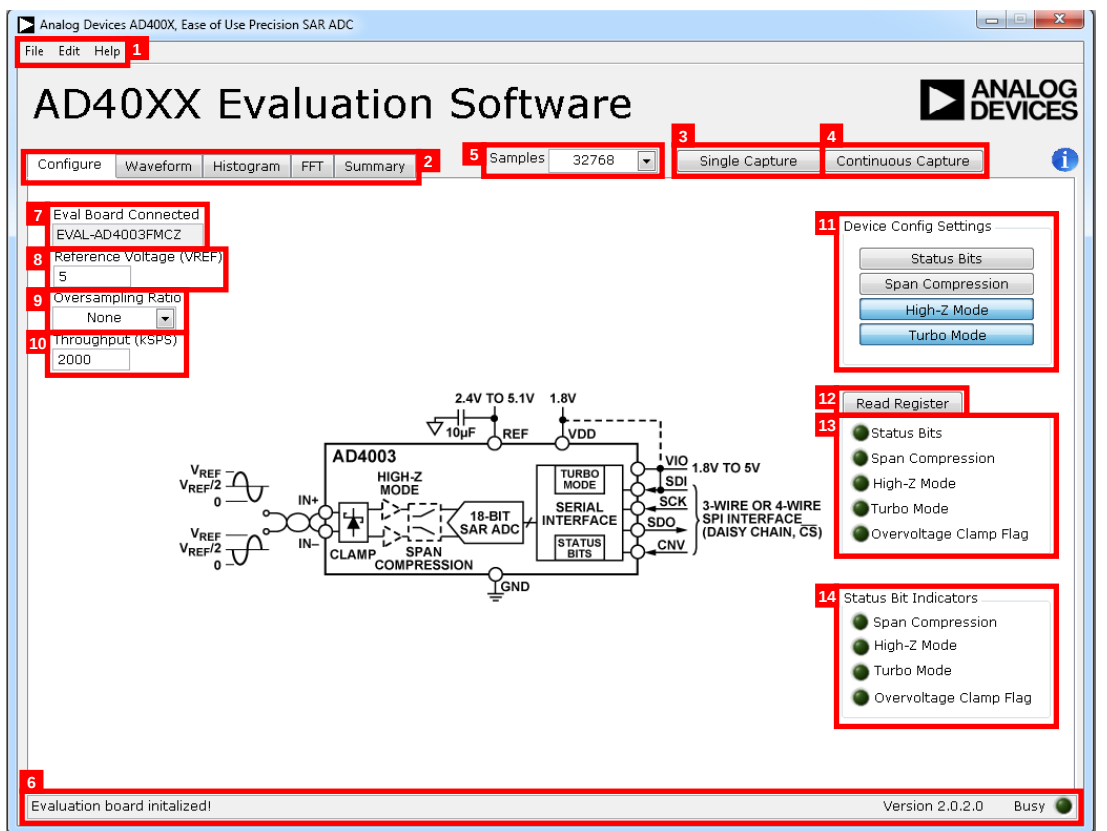

Figure 17. AD40XX Evaluation Software Front Panel (Configure Tab View)
After the AD40XX Evaluation Software Installer initializes, the software front panel appears, and the software automatically connects to any **EVAL-AD400x-FMCZ** evaluation board connected to the PC. The detected evaluation board is displayed in the **Eval Board Connected** indicator on the front panel (see Label 7 in Figure 17).
The AD40XX Evaluation Software Installer front panel is shown in Figure 17. The following sections describe the various software controls accessible on the front panel.
The **File** menu (Label 1 in Figure 17) provides the following options:
The **Edit** (Label 1 in Figure 17) menu provides the following option:
The **Help** menu (Label 1 in Figure 17) provides the following options:
The following five tabs are located at the top of the front panel (Label 2 in Figure 17): **Configure**, **Waveform**, **Histogram**, **FFT**, and **Summary**. These tabs select various front panel views.
Click **Single Capture** (Label 3 in Figure 17) to perform a single set of conversions. The number of conversions performed is set with the **Samples** dropdown list, which is located to the left of the **Single Capture** control.
Click **Continuous Capture** (Label 4 in Figure 17) to perform repeated sets of conversions. The number of conversions performed per set is set with the **Samples** dropdown list.
The **Samples** dropdown list (Label 5 in Figure 17) sets the number of conversions that are performed when **Single Capture** is clicked. The button also sets the number of conversions per set when **Continuous Capture** is clicked.
The status bar (Label 6 in Figure 17) displays information about the current process being completed by the **AD40XX Evaluation Software Installer**. The **Status Bar** includes a **Busy** indicator, which displays if the software is busy performing a task such as performing conversions, analyzing results, and so on.
Figure 17 shows the **Configure** tab view. The **Configure** tab provides controls for configuring the connected **AD4000** family device and software settings. The **Configure** tab view contains the following controls and indicators:
- **Eval Board Connected** (Label 7 in Figure 17): indicates that the **EVAL-AD400x-FMCZ** board is connected to the software.
- **Reference Voltage (VREF)** (Label 8 in Figure 17): sets the VREF used in data analysis such as when calculating **LSB Size** (see Label 2 in Figure 19), or measured voltage in the waveform graph (see the **Waveform Tab View** section. This control must be set to match the VREF used on the connected **AD4000** family evaluation board.
- **Oversampling Ratio** (Label 9 in Figure 17): sets the oversampling ratio applied to the captured data. After this control is set to any value other than **None**, the software sums up the consecutive conversion results together to increase effective resolution. The number of conversions summed together is set by the **Oversampling Ratio** control.
- **Throughput (kSPS)** (Label 10 in Figure 17): sets the throughput of the connected **AD4000** family device. The maximum value of this control is automatically set to reflect the maximum achievable throughput of the connected device, given the state of the **Status Bits** and **Turbo Mode** controls. See the relevant **AD4000** family device data sheet for more information on maximum achievable throughput.
- **Device Config Settings** (Label 11 in Figure 17): configures the connected **AD4000** family device user configuration register settings. See the relevant **AD4000** family device data sheet for a detailed description of the user configuration register and the device features.
- **Read Register** (Label 12 in Figure 17): reads the **AD4000** family device user register. When **Read Register** is clicked, the contents of the connected **AD4000** family device register are read to update the **Device Config Settings** items accordingly.
- **Device configuration settings display** (Label 13 in Figure 17): displays the status of the user register when **Read Register** is clicked. Each of the following indicators displays the state of the corresponding settings:
- **Status Bits Indicators** (Label 14 in Figure 17): displays the configuration settings of the device as indicated by the status bits. The status bits are enabled with the **Status Bits** control in the **Device Config Settings** pane (Label 11 in Figure 17). The **Status Bits Indicators** are only updated after conversions are performed with the **Single Capture** or **Continuous Capture** controls when the status bits are enabled on the connected **AD4000** family device. The
- **Bin Width**: displays the size of the frequency bins in the FFT graph x-axis. The bin width is a function of both the **Throughput (kSPS)** control (Label 10 in Figure 17) and the number of samples in the captured data.